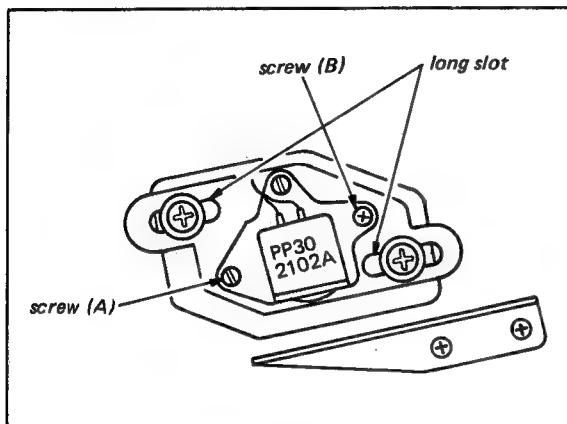

Fig. 7-14 Audio/CTL head (1)
2. Remove the screws A and B in Fig. 7-14. Do not loosen the screws in the long slots.
5. Install the head mounting plate assembly using the original screws A and B in Fig. 7-14.
- Play back video alignment tape. Loosen the screws in the long slots shown in Fig. 7-14.